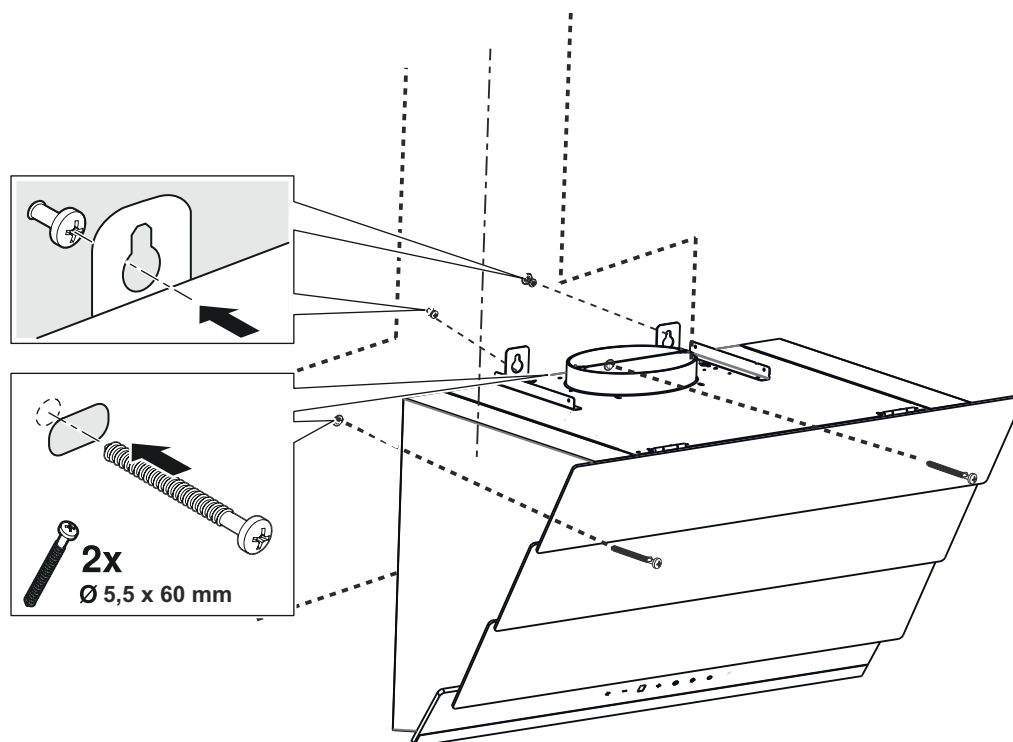

Fig. 15
1. Hold the device by its body and attach it to the hanger screws that you have previously screwed into the wall and tighten the hanger screws (Fig. 15).
2. Fix the device to the wall with two 5.5x60 screws through the mounting hole on the inside of the device (Fig. 15).